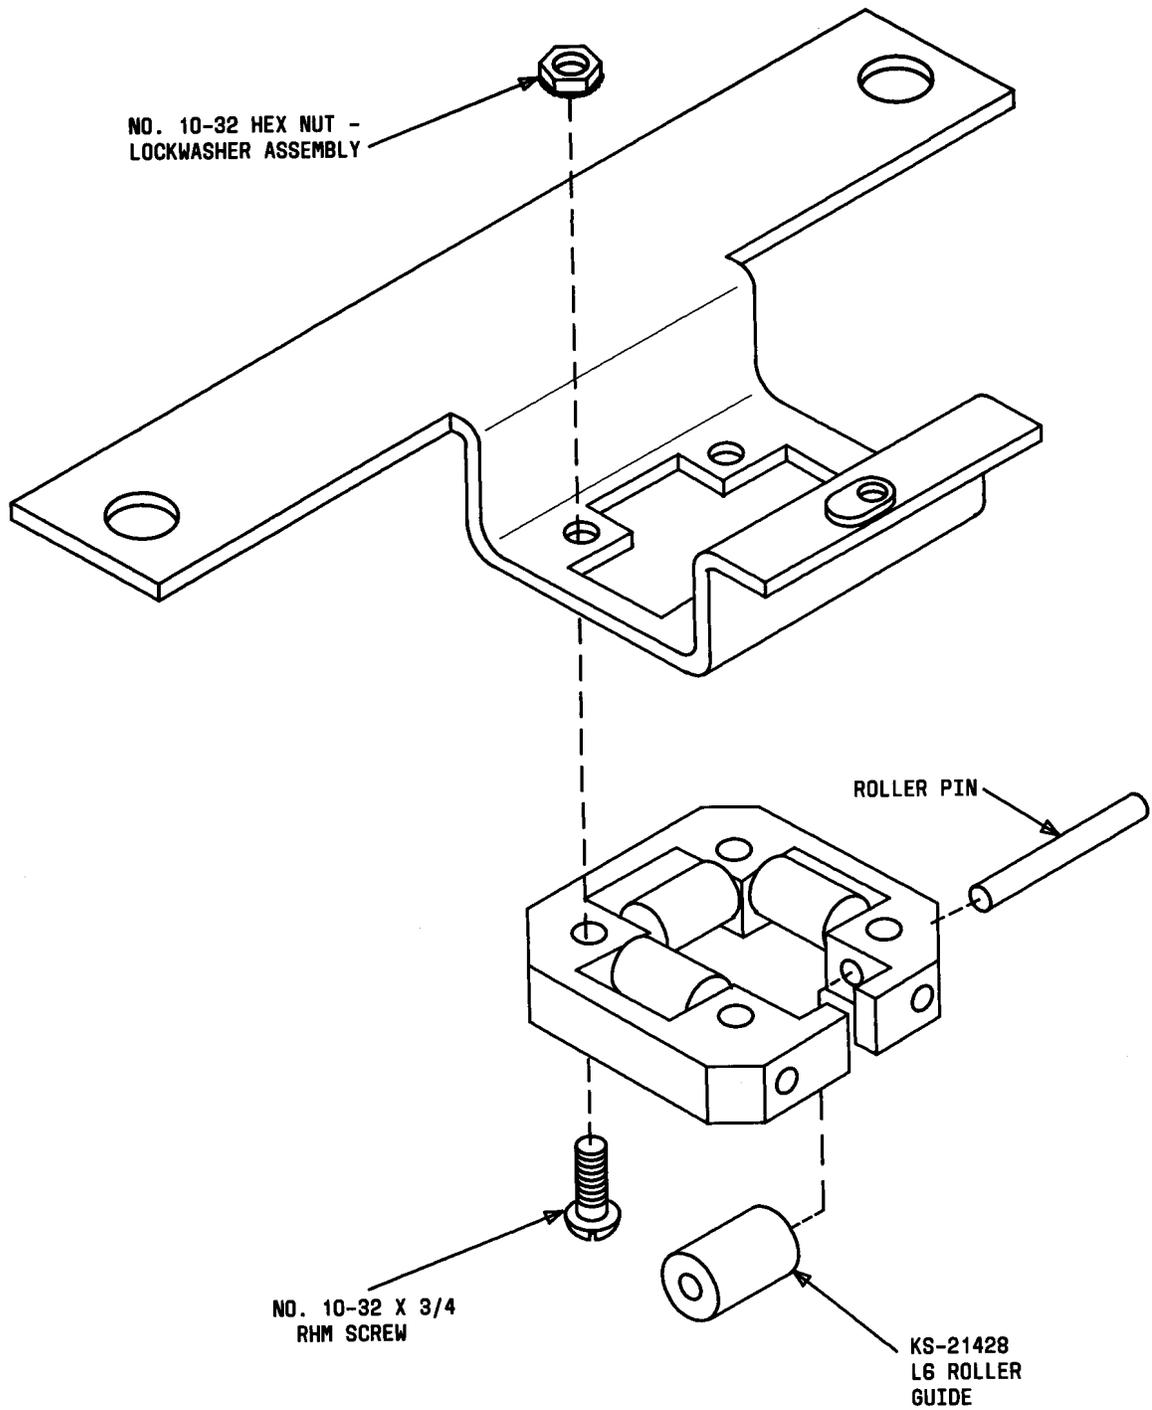

Fig. 6—KS-21428, List 5 Roller Guide Bracket Assembly
(1) To remove bracket assembly, remove two 3/8-16 by 3/4 RHM screws, two 3/8-inch lockwashers, and one No. 10-32 security screw. Install using reverse procedure.
(2) To install a roller guide bracket assembly on an early phonecard which was never equipped with one:
- Separate roller guide from bracket (Fig. 6)
- Assemble roller guide and secure it to bracket (Fig. 6)
(1) To remove roller guide.
- Remove four No. 10-32 hex nut-lockwasher assemblies and four No. 10-32 by 3/4 RHM screws (Fig. 6).
(2) Install using reverse procedure.